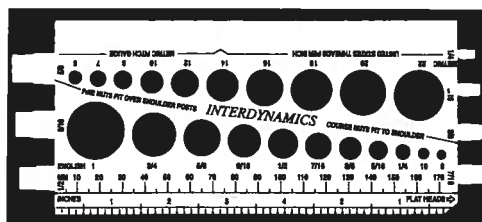

Figure 11. *Nut and bolt gauge plate*
1. Diameter of the shank is the most important dimension. It is measured at the unthreaded part of the shank under the head. If the shank is entirely threaded, then a nominal diameter can be determined by measuring across the crests of the threads. Diameter is best measured with calipers or with a nut and bolt gauge plate (Figure 11). Diameters greater than 1/4" are specified in fractions of an inch; diameters smaller than 1/4" are numbered from 0 to 12, corresponding to measurements in thousandths of an inch (see chart on page 12). There is no advantage in specifying diameter or any other dimension in metric units unless the artifact was originally made with metric fasteners, indicating that it was probably manufactured in continental Europe.